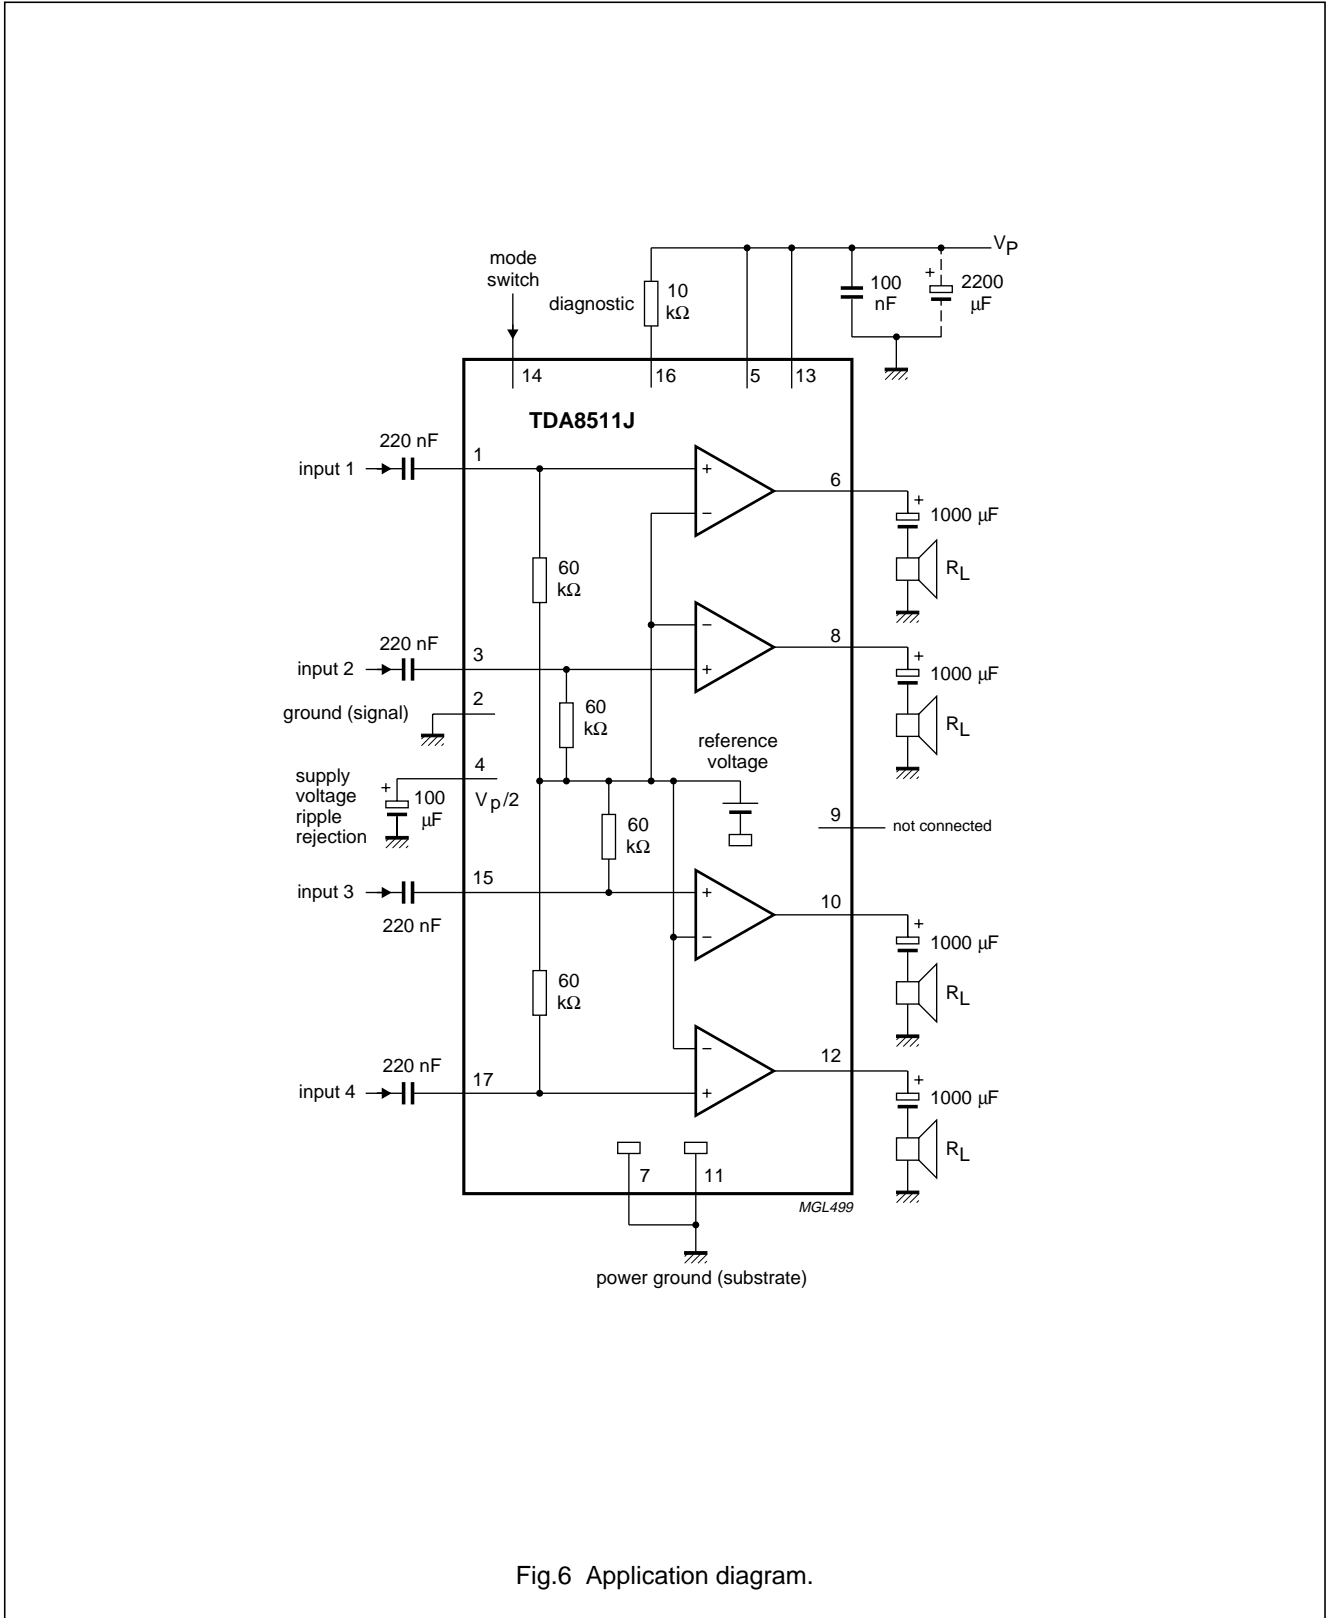

Fig.6 Application diagram.
**4 × 13 W single-ended power amplifiers****TDA8511J****DC CHARACTERISTICS** $V_P = 15\text{ V}$ ;  $T_{amb} = 25\text{ °C}$ ; measured in Fig.6; unless otherwise specified.
$V_P = 15\text{ V}$ ;  $R_L = 4\ \Omega$ ;  $f = 1\text{ kHz}$ ;  $T_{amb} = 25\text{ °C}$ ; measured in Fig.6; unless otherwise specified.